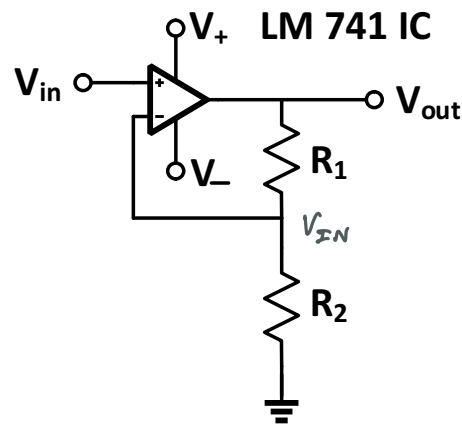

Figure 9: Opamp in negative feedback.
- The opamp circuit shown in Fig. 9 will be used to increase the output voltage of the DC power supply you designed. **The rail voltages for the opamp can be taken from the terminals of filter capacitor.** You must ensure that this satisfies the maximum allowed rail voltages for LM 741 IC (ref: Datasheet). Note down the maximum allowed rails voltages from the device datasheet and then justify if voltage across the plates of capacitor satisfies this requirement.